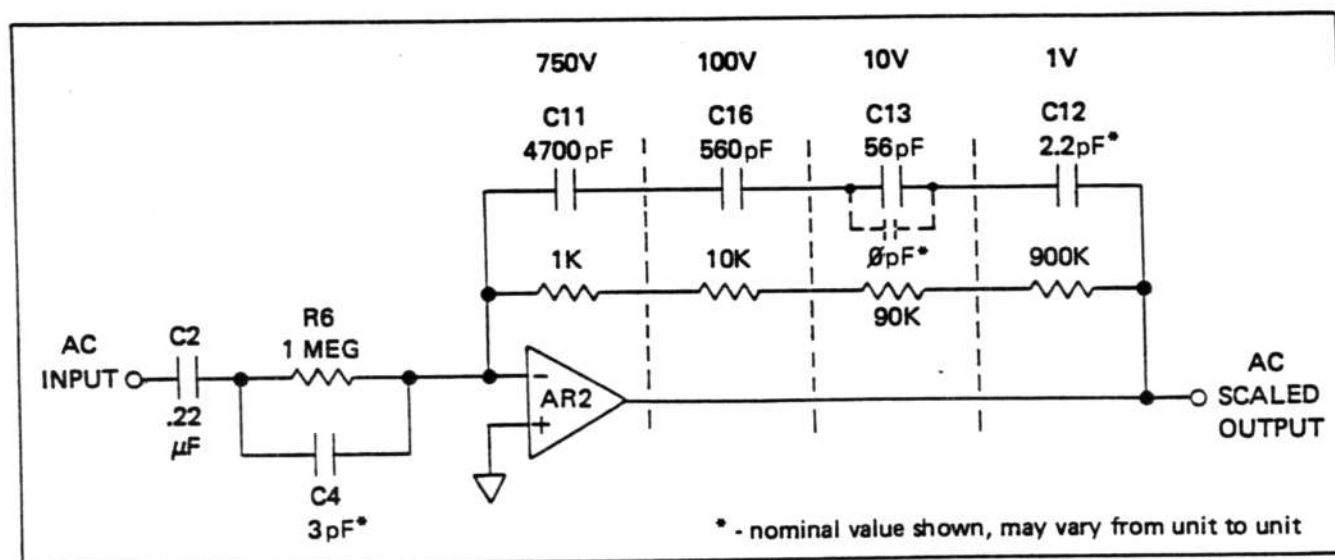

Figure 5.4 - AC Frequency Linearity Adjustment
5.3.7.3.2 To determine whether or not this procedure is required, complete Section 5.3.6.1, AC Frequency Linearity Check. If one or more ranges are out-of-tolerance, adjustments are made by modifying the components listed in Figure 5.4 and described in paragraphs a) through h).